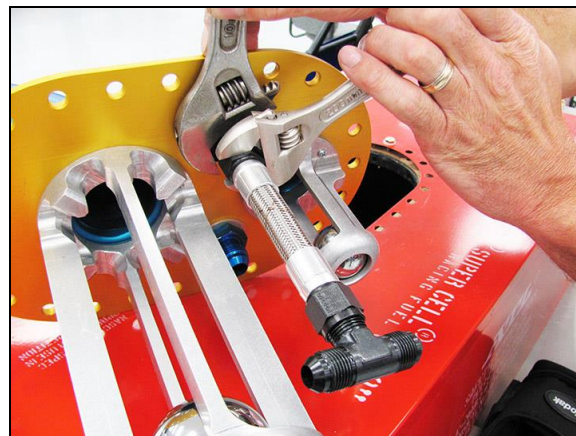

Figure 15
10. Install the return hose with the T-fitting to the fill plate (**Fig. 15**). Tighten the 8AN fitting to 270-350 in./lbs.